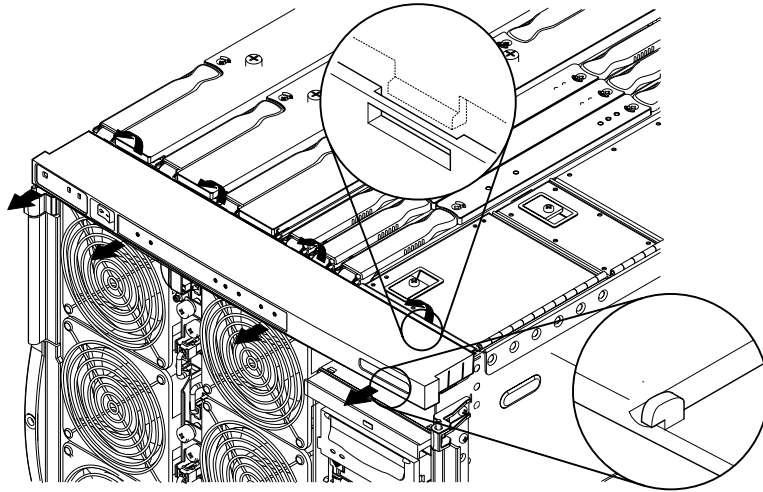

FIGURE 10-2 Removing the System Indicator Board Cover
9. Press in the back of the system indicator board plastic housing. Push very hard on the plastic latching clips to release the upper housing from the lower housing (FIGURE 10-2).
4. **Push hard on the back of the system indicator board housing onto the chassis until the plastic latching clips engage (FIGURE 10-2).**